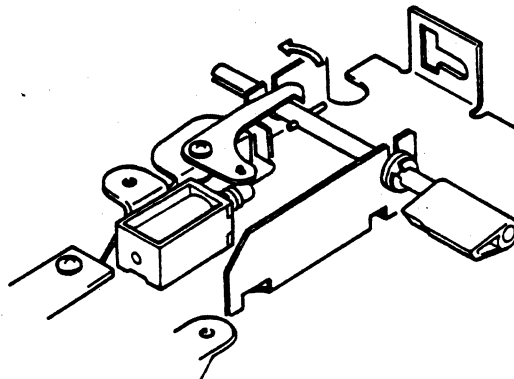

Figure 4-22 Door Lock Solenoid Deactivated
3. Refer to Figure 4-22. Deselect the disk drive. Ensure that the door lock solenoid is deactivated and the the door is released.